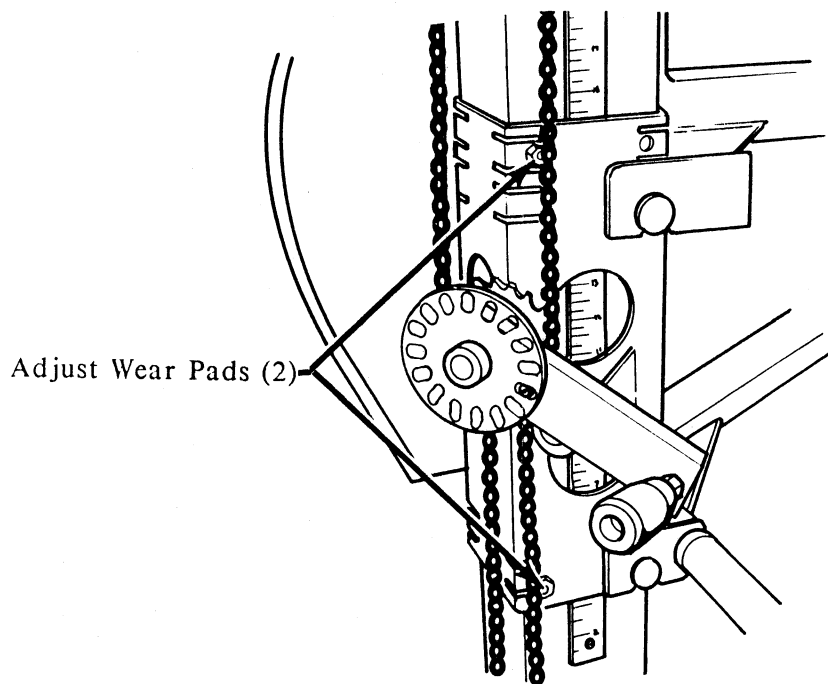

FIGURE 4
5. Adjust the wear pads on the vertical mast if there becomes noticeable side-to-side movement of the cutting head (See Figure 4).